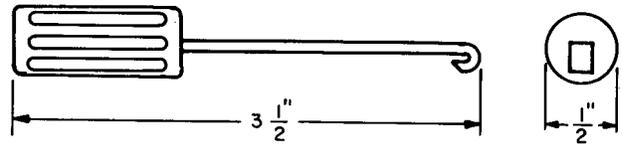

Fig. 15—456A Adjuster Tool
2.15 **456A:** The 456A tool (Fig. 15) is an adjuster for use on 200- and 206-type selectors and power-driven rotary selectors.